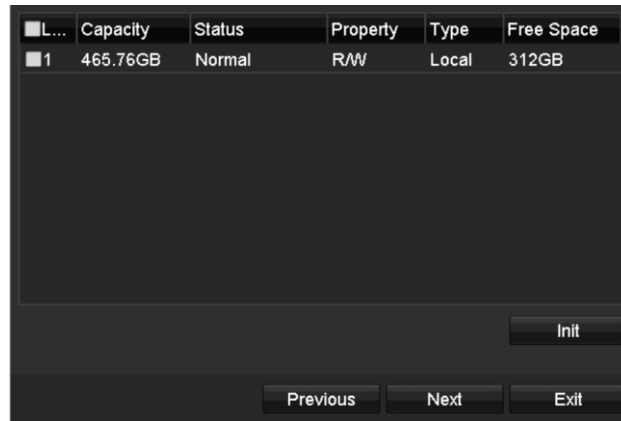

Figure 1-25 HDD Management
Step 7 Click **Next** button to enter the **HDD Management** window, shown in Figure 1-25.